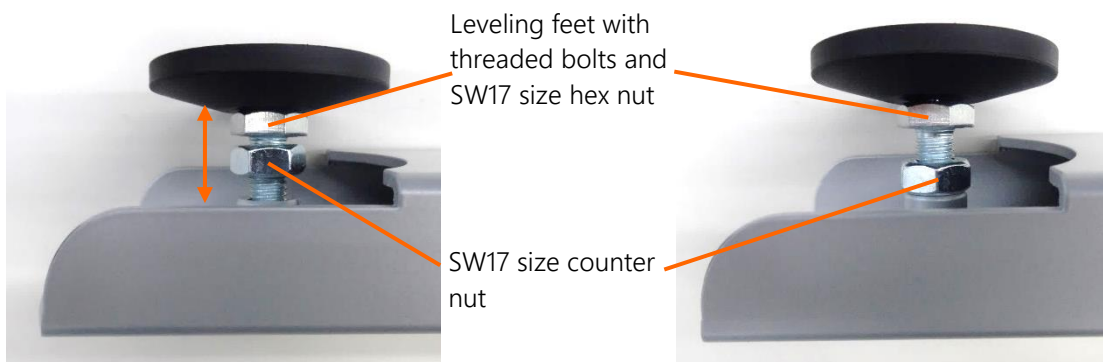

Figure 44 Adjusting the work surface with a spirit level
- By partially unscrewing the leveling feet from the foot base, adjust the individual leveling feet such that the working surface is leveled and all attached lifting elements have uniform contact with the ground. You can do this by unscrewing the leveling foot threaded bolt at the hex. SW17 size nut (for this purpose, also see Figure 44).
- ➔ If the level on all leveling feet is adjusted and all leveling feet have uniform contact with the floor, tighten the counter nuts on all leveling feet (also refer to Figure 44 for this purpose), in order to ensure that the work surface remains leveled during operation.